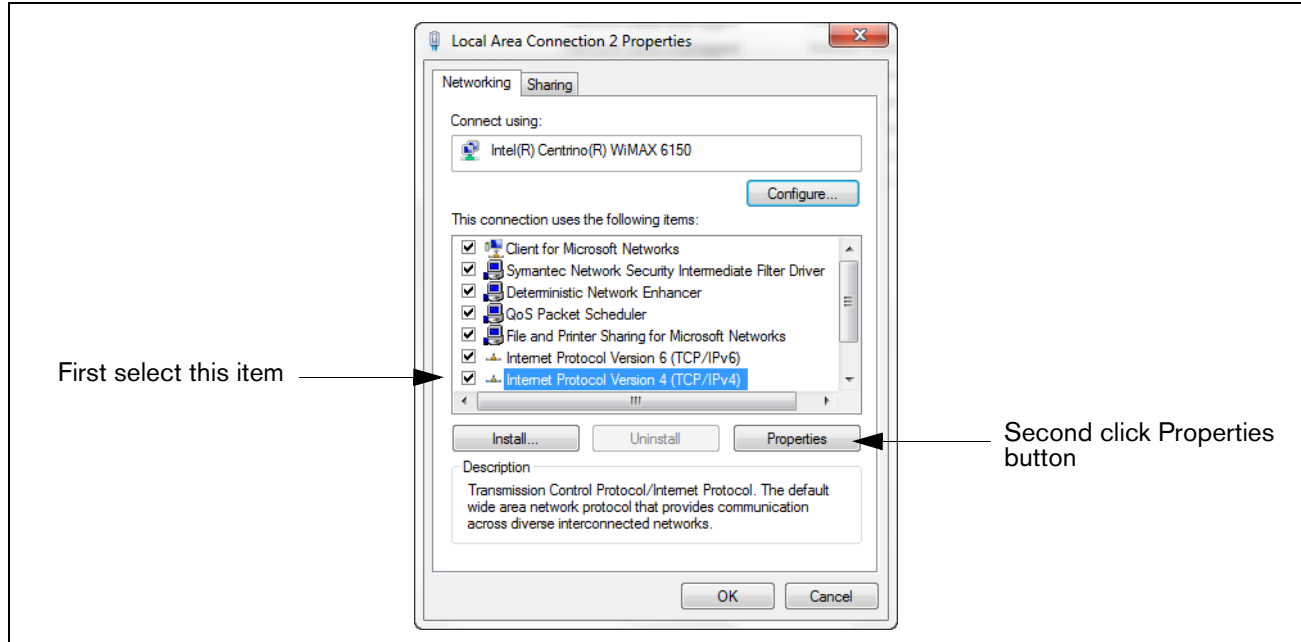

Figure 7. Local Area Connection 'X' Properties dialog box selections
4. When the selected Local Area Connection Properties dialog box opens make the selection shown in Figure 7.